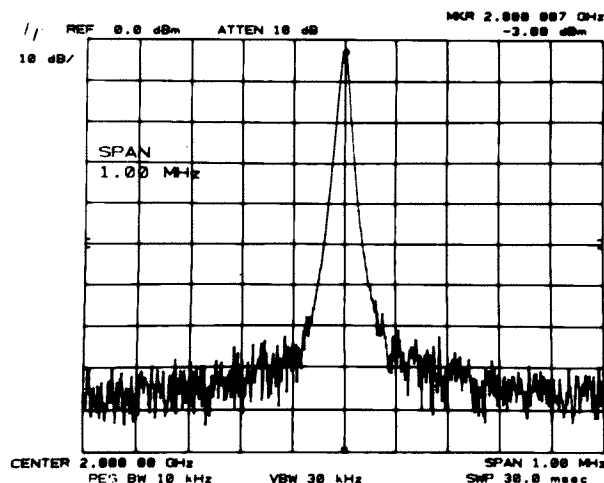

Figure 4-3. Center Frequency Accuracy Measurement
8. Record the CENTER readout frequency in the table for each setting. The limits for this frequency are given in the table. Refer to Figure 4-3.